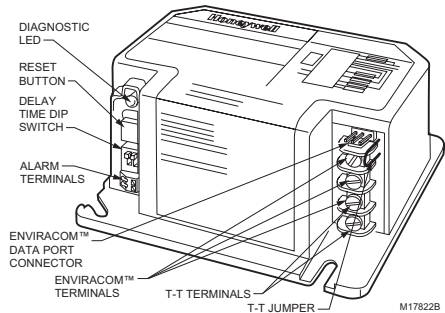

Fig. 2. R7184 terminals, connectors, LED, reset button and DIP switch locations.
Burner motor-off Delay: 0, 2, 4 or 6 minutes. Field selectable using dual inline programmable (DIP) switch positions 1 and 2. Select models have 0.5, 2, 4, or 8 minute delays. (See Fig. 2 and 12.)
^a Select models are provided with a T-T jumper which can be disabled by cutting with a pair of side-cutting pliers. (See Fig. 2.)
2. Before mounting the control, make line voltage connections as shown in Fig. 2 through 11. Splice lines with solderless connectors. Do not exceed load ratings shown on the device label.
3. After mounting make low voltage connections to the screw terminals (see Fig. 2 through 11).
5. SEE FIG. 2.
The R7184 is a microprocessor-based control. The indicator light provides diagnostic information for lockout, recycling and patented cad cell status. There is a manual reset button to exit the lockout mode and enter the idle mode. (See Fig. 2.) Operation is shown in Table 4.